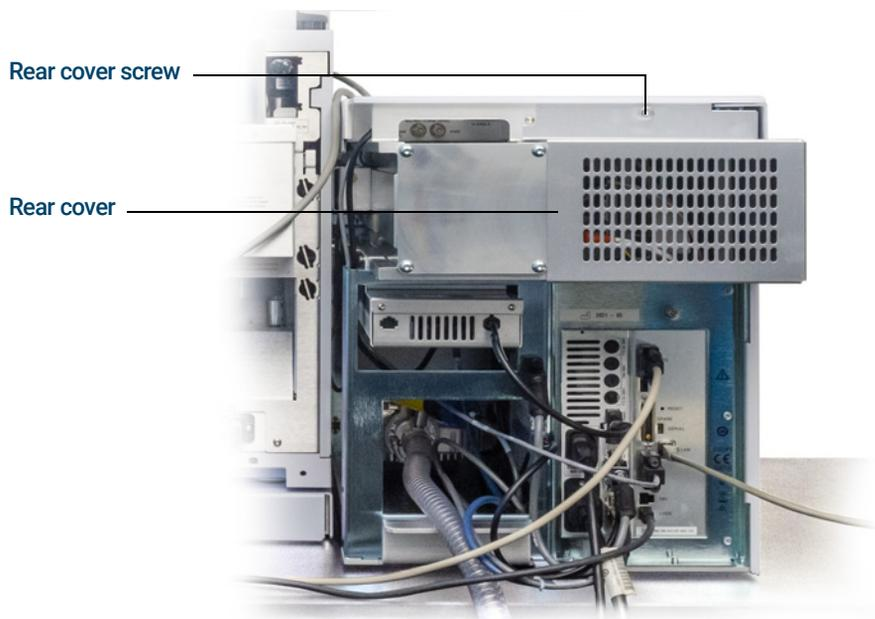

Figure 71. Removing covers
The rear cover should be removed to open the rear analyzer side plate. This is necessary when replacing the electron multiplier horn. If you need to access the rear analyzer chamber, follow these procedures to remove the rear cover. (See **Figure 71** on page 220.)
- 1 Loosen the top screw of the rear cover. It is captive so you will not be able to remove it entirely. (See **Figure 71** on page 220.)